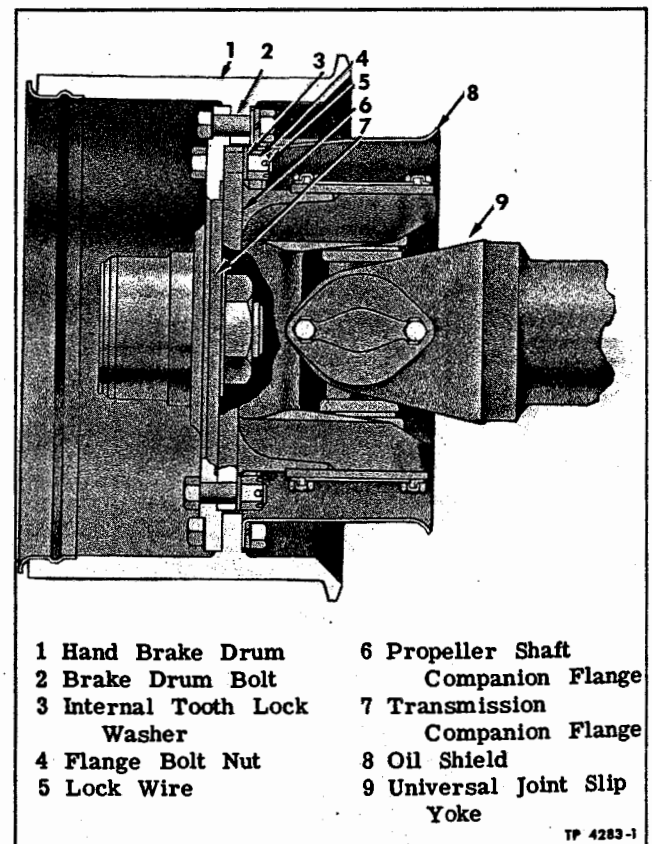
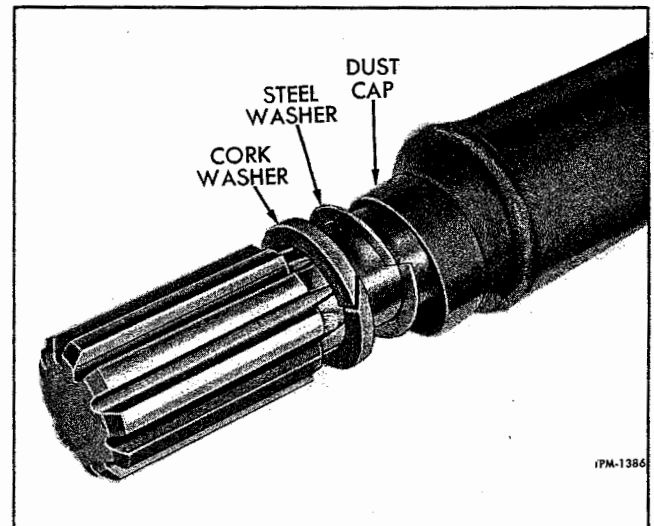

Figure 1—Propeller Shaft Installation at Transmission
Figure 4—Propeller Shaft with Slip Joint Removal
Flange yoke, at slip joint end, is bolted to transmission angle drive companion flange (fig. 1). The shaft is splined to slip yoke, a steel dust cap which screws into slip yoke (fig. 4) prevents entry of dust.
4. Remove nuts and lock washers holding hand brake drum and oil shield to transmission companion flange (fig. 1).
6. Remove lock wire, nuts, and bolt washers holding propeller shaft companion flange to transmission companion flange (fig. 1).
b. Place steel washer and cork washer on shaft between splines and dust cap at slip yoke end (fig. 4).